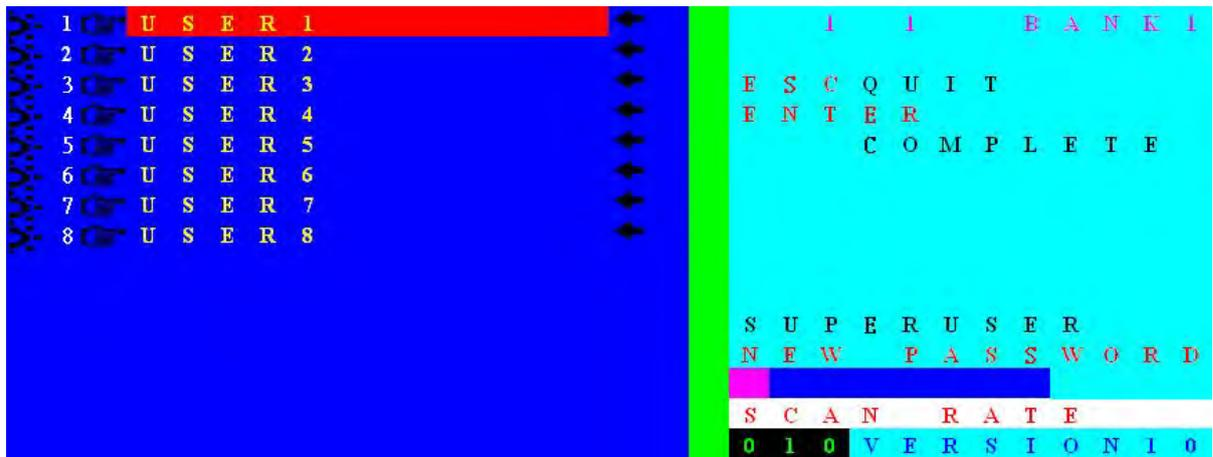

Figure 4-10. Set Super User Password
- **F1-** To set password please press F1(SUPERUSER) to set SUPERUSER password (Figure4-10).